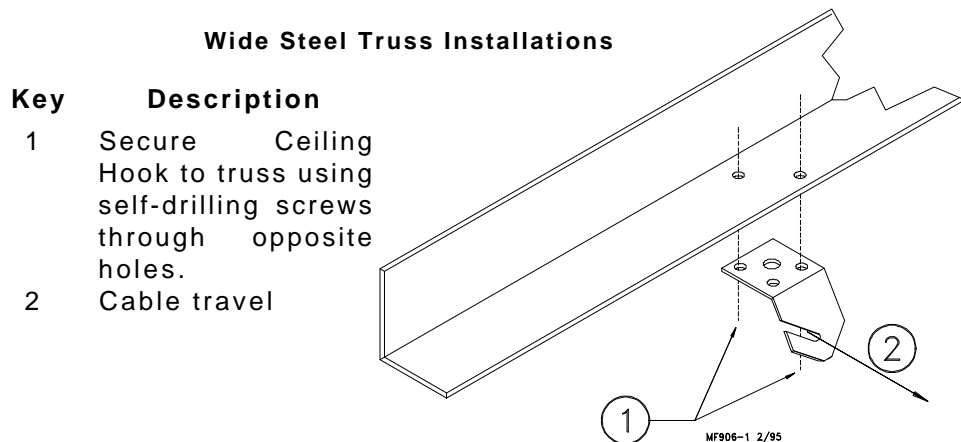

Figure 18. Ceiling Bracket Installation
1. The ceiling hook may be used on a variety of ceiling or rafter types. Install the Ceiling Hooks as shown in **Figures 18 - 22**.